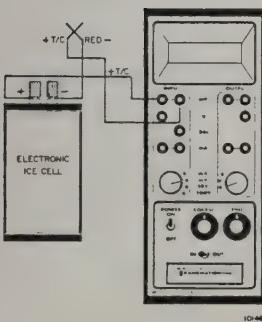

FIGURE 2-10a
1. Make the necessary connections between the 1045, the ice cell and the thermocouple (see Figures 2-10a and 2-10b below). Note that the red T/C lead is negative and the color-coded T/C lead is positive.